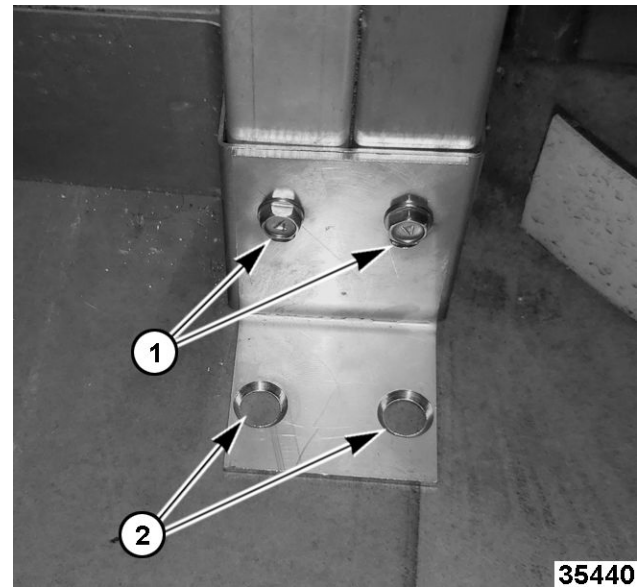

Fig. 35
5. Loosely fasten retainers in place using #10-16 x 3/4" drill tip screws (1, Fig. 35).
6. Mark holes in bakery floor (2, Fig. 35), then remove retainers.